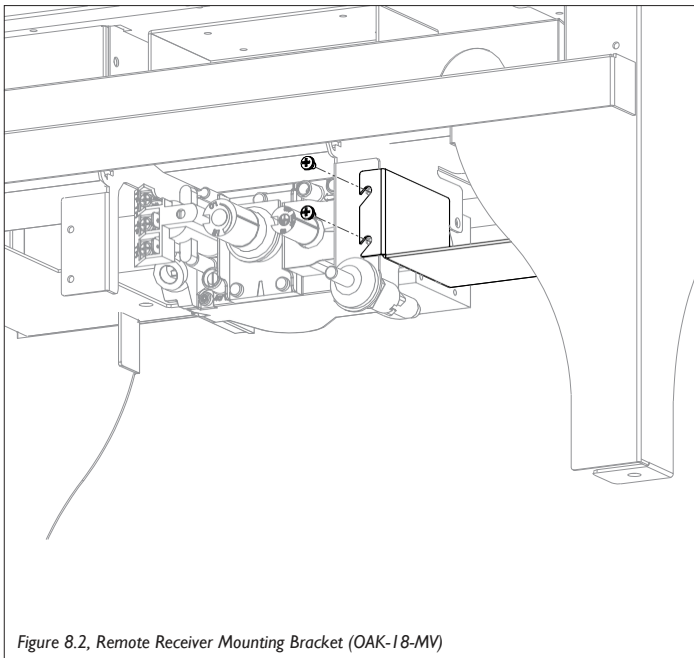

Figure 8.2, Remote Receiver Mounting Bracket (OAK-18-MV)
- An optional remote receiver mounting bracket may be installed on the control compartment using (2) screws as shown in Figure 8.2).